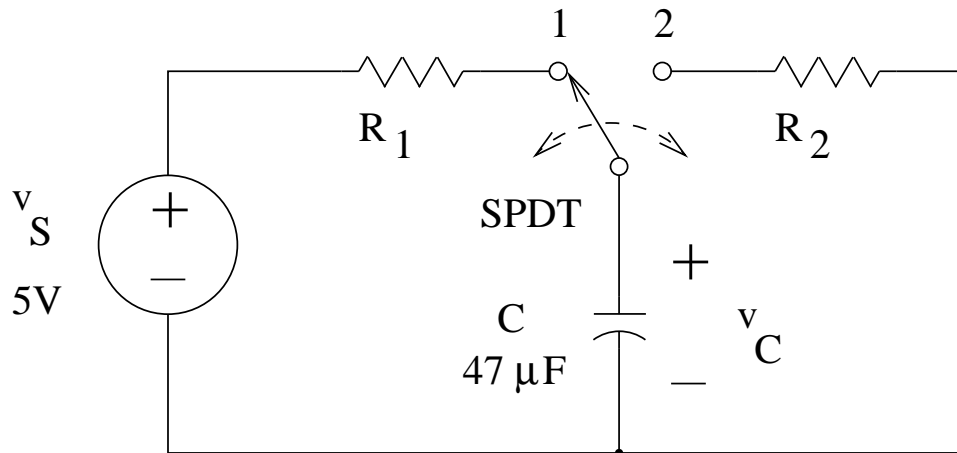

Figure 14: Switchable RC circuits
- Wire the connections to a Single Pole, Double Throw (SPDT) switch. This is done by soldering short (two inch) wires to the three poles of a SPDT switch. Figure 14 shows a circuit that uses this kind of switch. The center pole is common to both switch positions, while the other two wires complete either of the two circuits. Test your switch before proceeding.
4. Construct the circuit given in Figure 14 in which a Single Pole Double Throw (SPDT) switch makes two different circuits: one in which there is a voltage source to charge the capacitor and one to connect a resistor in parallel with the capacitor so that it discharges.